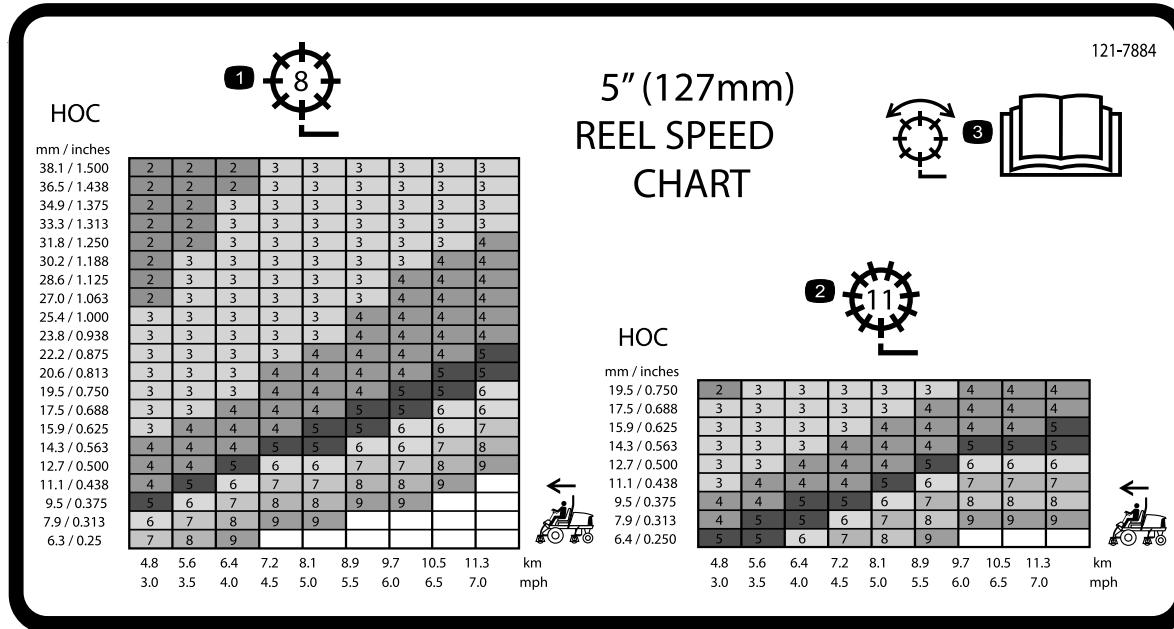

Figure 33
3. Use the graph on the reel speed chart decal (Figure 33), to determine the proper reel speed setting.